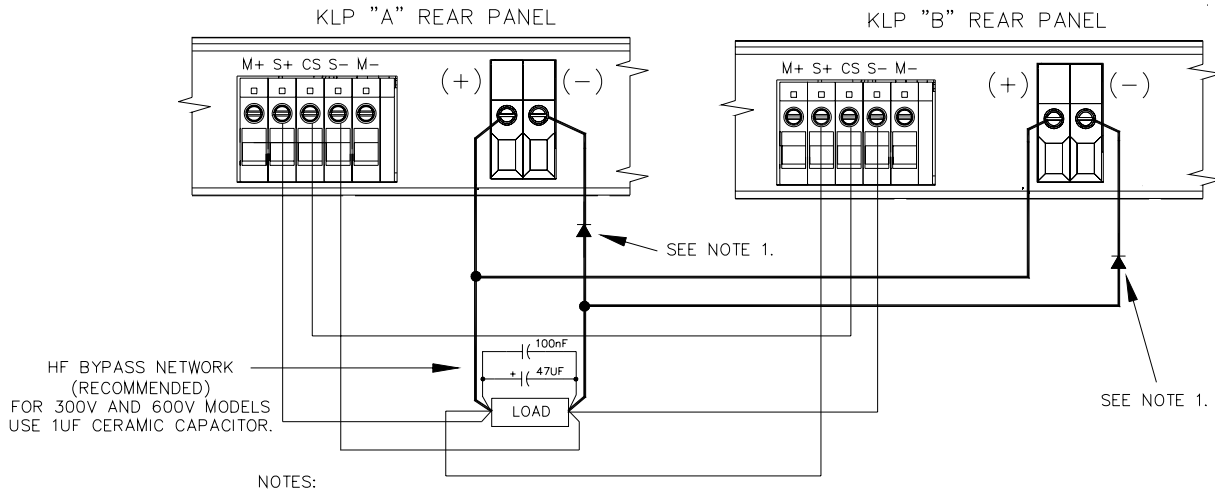

FIGURE 2-5. PARALLEL CONNECTIONS USING REMOTE SENSING
Identical KLP power supply models may be connected in parallel in order to provide increased output current to a common load (see Figure 2-5). This permits the user to obtain significantly higher load ratings than for a single KLP power supply. The number of power supplies required is determined by dividing the required load current by the current rating of the applicable KLP model, and rounding up to the next whole number when necessary. KLP power supplies utilize active current sharing circuitry to distribute the load current equally among the paralleled units. Redundant operation is achieved by paralleling one or more power supplies than the minimum number required to support the load; in this way, system operation is not compromised by the failure of a single power supply. Any number of KLP power supplies (N+M) can be wired for redundant operation as long as (N) power supplies can support the load, M representing the total number of failed power supplies. When operating KLP power supplies in any parallel configuration, load sharing **must** be implemented among the paralleled modules. Kepco strongly recommends that parallel/redundant applications employ master/slave control (available on -1200 Models only) as described in PAR's. 2.7.8 and 3.2.11.